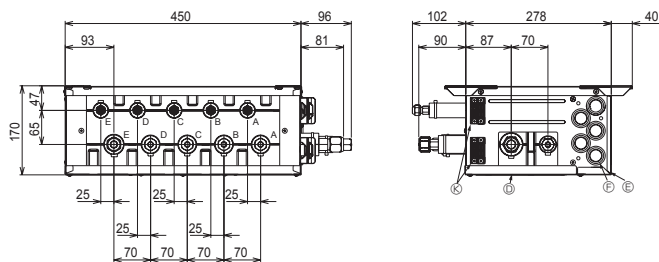

Fig. 4-2
■ PAC-MK51BC (Fig.4-2)
- (1) Install the suspension bolts (procure locally) at the specified pitch (Fig. 4-2, 4-3).
- (2) Fit the washers and nuts (①, ②, procure locally) to the suspension bolts.